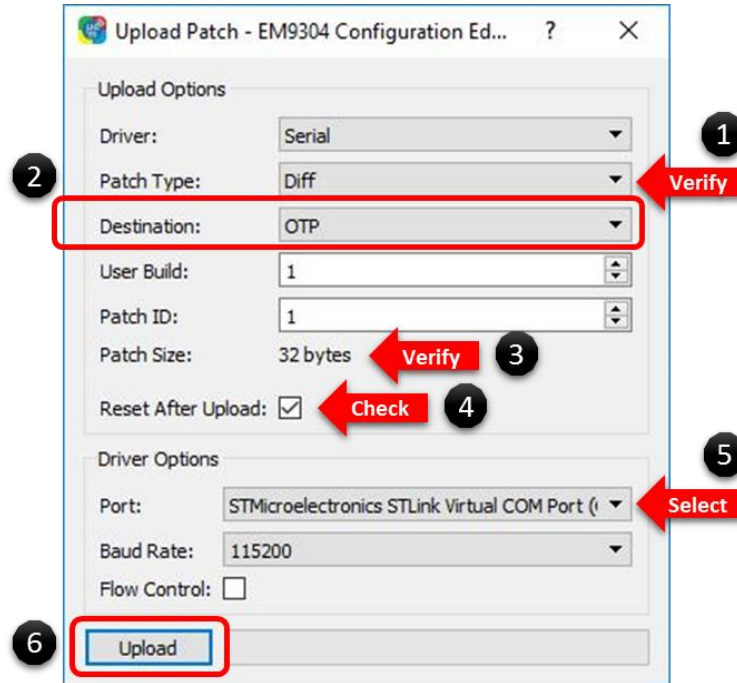

Figure 34 Upload patch dialog.
5. Under **Destination**, select **OTP**, and verify the other settings are set as shown in Figure 34 Upload patch dialog. The Driver entry allows the user to program the DVK through the serial interface or save the configuration patch to a file. The port entry will display "**STMicroelectronics STLink Virtual COM Port (COM X)**" where COM X is the port attached to the Nucleo board. The **Patch Type** specifies whether all configuration options will be written or whether only those configuration options that have changed will be